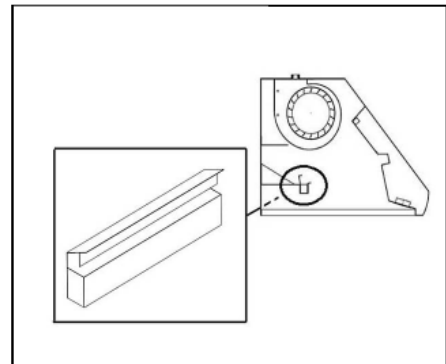

Figure 7
9. Drop Oil Tunnel into support structure. Refer to Figure 7.
7. Drop Oil Tunnel into support structure. Refer to Figure 7.